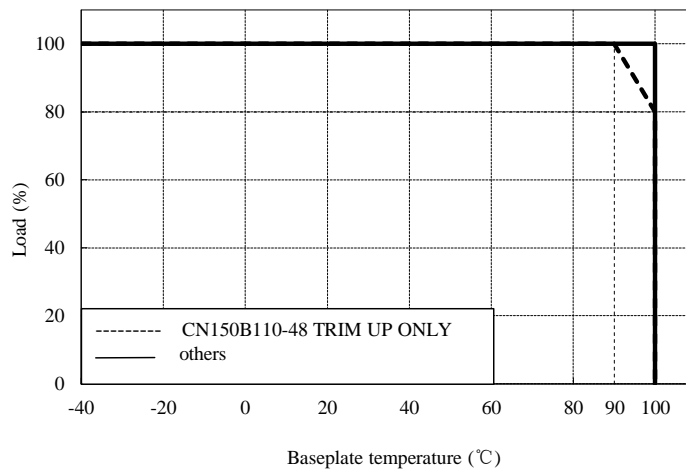

Fig.7-24 Derating Curve
- 2. There is limitation on baseplate temperature range for as shown in Fig 7-24.